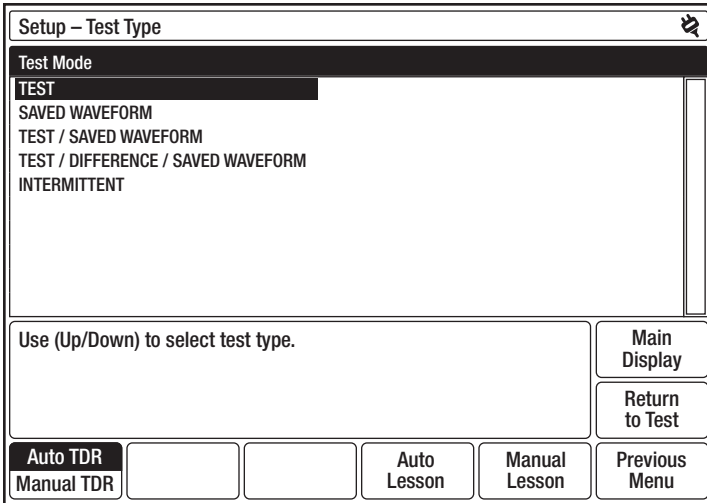

Figure 4-6: Setup – Test Type
3. Next, press **Test Type** to display the **Setup – Test Type** menu to select Auto TDR (Figure 4-6).
To select a test type other than TEST, go to the **Setup – Test Type** menu (Figure 4-6). Use ▲▼ to select the test type.
3. Next, press **Test Type** to display the **Setup – Test Type** menu to select Manual TDR (Figure 4-6).